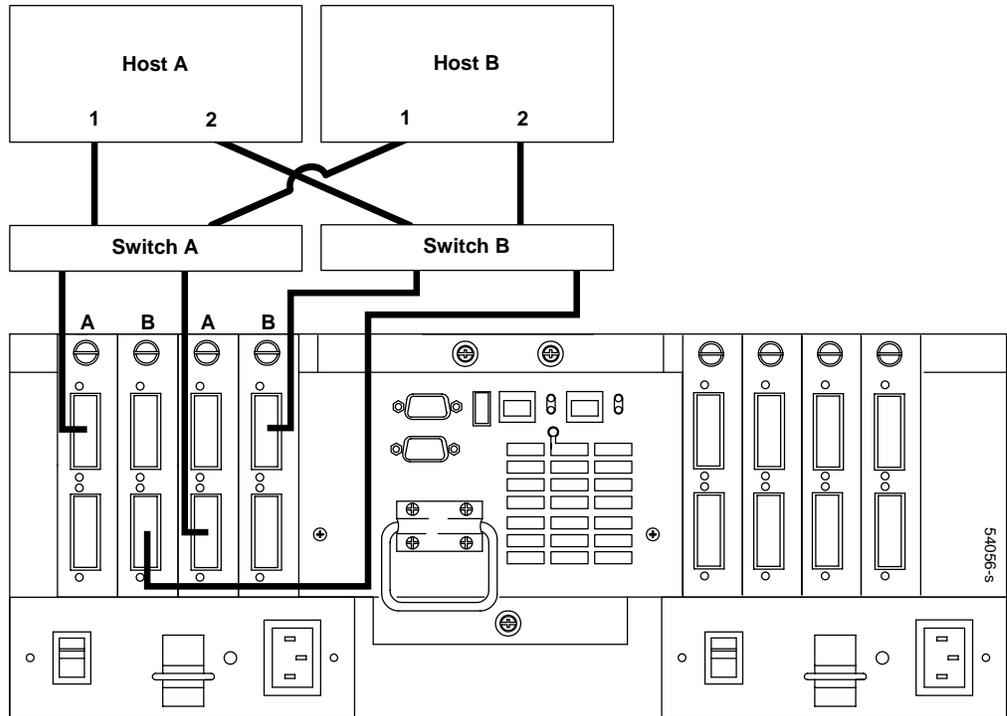

Figure 8-11 Multi-Switch Connect — 2 Host
Figure 8-11 shows a High Availability (HA) switch configuration.